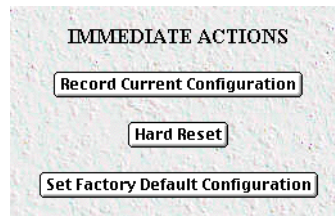

Figure 23. Immediate Actions buttons
- **Record Current Configuration**—clicking on this button (see figure 23) saves the current configuration from volatile DRAM memory to FLASH memory. Once the configuration is saved into FLASH memory, the configuration will not be lost even if the power is cycled on the 3196RC. Initially, changes made to the 3196RC configuration are stored in volatile DRAM, enabling the user to set the box up with a working configuration before committing it to storage in FLASH. When you select **Record Current Configuration**, the 3196RC stores your changes to FLASH memory.
- **Hard Reset**—this button (see figure 23) causes the Model 3196RC to perform a cold restart. When you select **Hard Reset**, the T-DAC confirms that you want to execute this command. Then, the T-DAC will disconnect all current sessions, re-initialize the interfaces, and re-load configuration parameters from FLASH.
- **Set Factory Default Configuration**—this button (see figure 23) clears out the configuration in FLASH and loads the factory default parameters into FLASH memory. The factory default settings will not execute on the Model 3196RC until it is re-booted by doing a Hard Reset.
Note **Set Factory Default Configuration** (figure 23) will delete any routing information, the Model 3196RC's Ethernet IP address, and any other site-specific settings made for your particular installation. You will have to re-enter the Model 3196RC's Ethernet IP address and net-mask using the rear panel control port before using the HTTP/HTML Management pages.